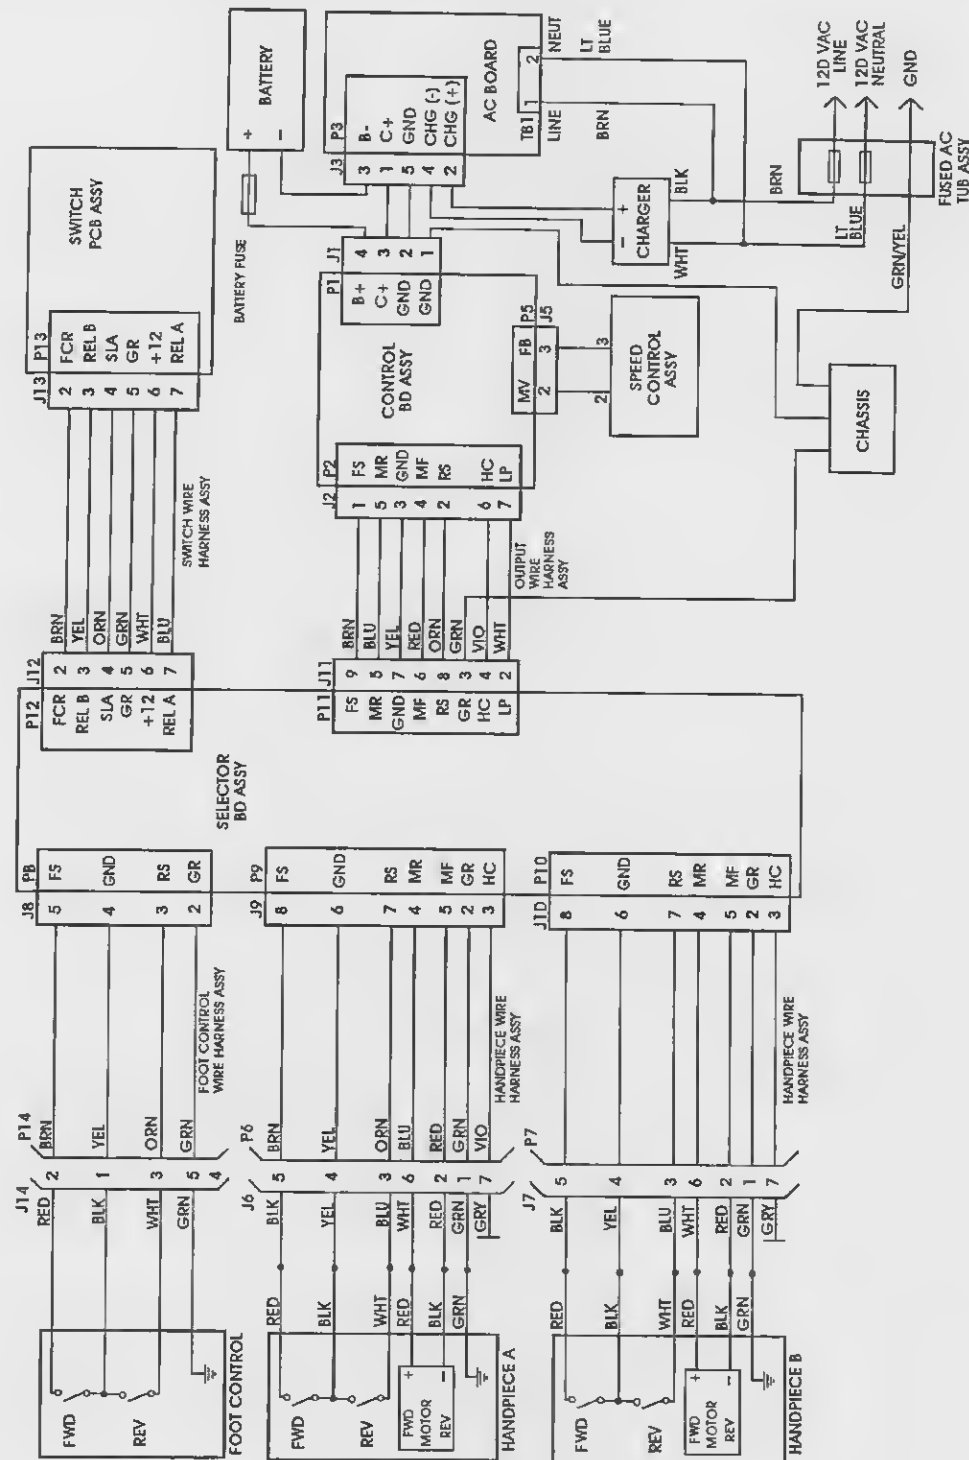

Figure 3-1. Wiring diagram.
- A wiring diagram for troubleshooting is provided in figure 3-1.
This general wiring diagram shows the connectors and cabling that joins the various PCBs and sub-assemblies. (Refer to figure 3-1.)